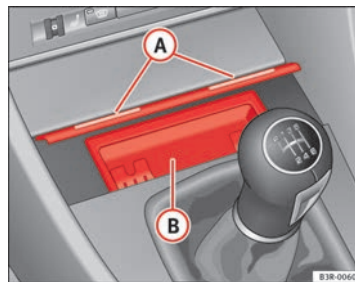

Fig. 122 Centre console: Open ashtray
- Lightly press the front part of the ashtray (A) ⇒ fig. 122. ▶
- Take hold of the sides of the ashtray (B) ⇒ fig. 122 and lift it out.